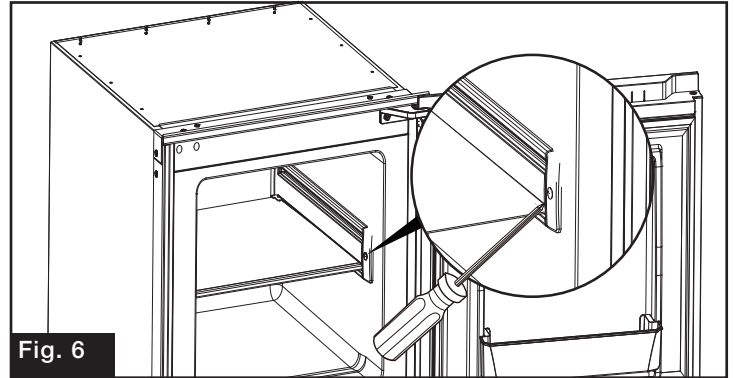

Fig. 6
3. Loosen the fixing screw using a Phillips screwdriver. (Fig. 6)